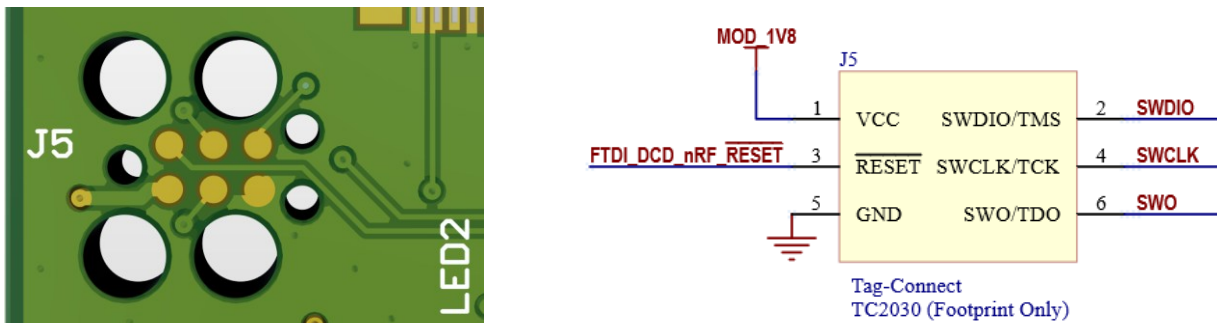

Figure 6: J5 Single Wire Programming Connector
**J5** (Figure 6) on the PCBA is compatible with Tag-Connect TC2030-IDC or TC2030-CTX ARM® Cortex™-M4 CPU line of plug-of-nail cables and requires this ARM20-CTX Adapter or J-Link 9-Pin Cortex-M Adapter.